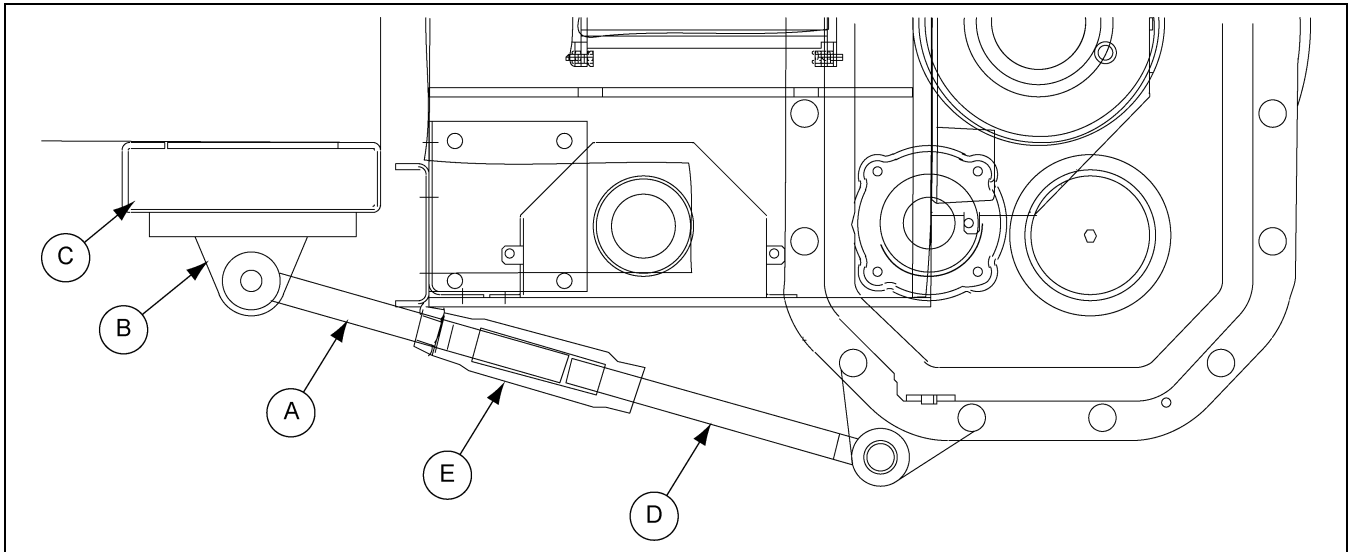

Figure 4L
1. Install the torque arm between the two (2) plates that are located on the bottom of the reducer drive.
3. Attach the other end to the torque arm bracket on the conveyor using two (2) bolts, washers and lock nuts.
4. Tighten the torque arm by turning the turnbuckle. Adjust the position of the reducer. The reducer should be in a vertical position. (See Figure 4L.)